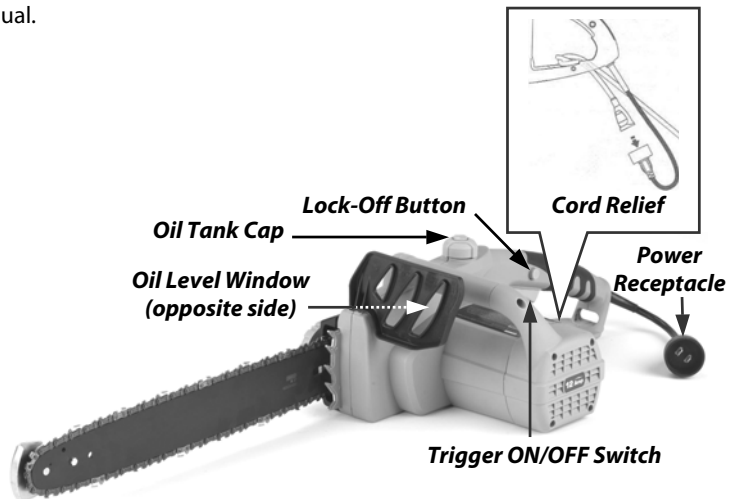

Figure 1
- Before starting the Saw, remove the Oil Tank Cap and add #32 Bar & Chain Oil to the top of the Oil Level Window (**Figure 1**). One (1) minute of use will consume approximately 0.15 fl. oz. (5ml) of oil. Refill when the oil level drops to 1/4 of a tank.
2. Connect the Chain Saw to a working 120V outlet using a heavy-duty outdoor extension power cord. Make a loop in the power cord and push it up through the hole in the Handle and around the Cord Relief Hook (**Figure 1**) then plug it into the Power Receptacle.
4. Push the Lock-Off Button IN (**Figure 1**) with your right thumb and squeeze the Trigger ON/OFF Switch with your fingers. Once the Motor starts you can remove your thumb from the Lock-Off Button. If the Saw does not start, make sure you plugged the power cord into a live 120V outlet (simply use a lamp to check the power outlet) and firmly plugged the power cord into the Saw power receptacle.